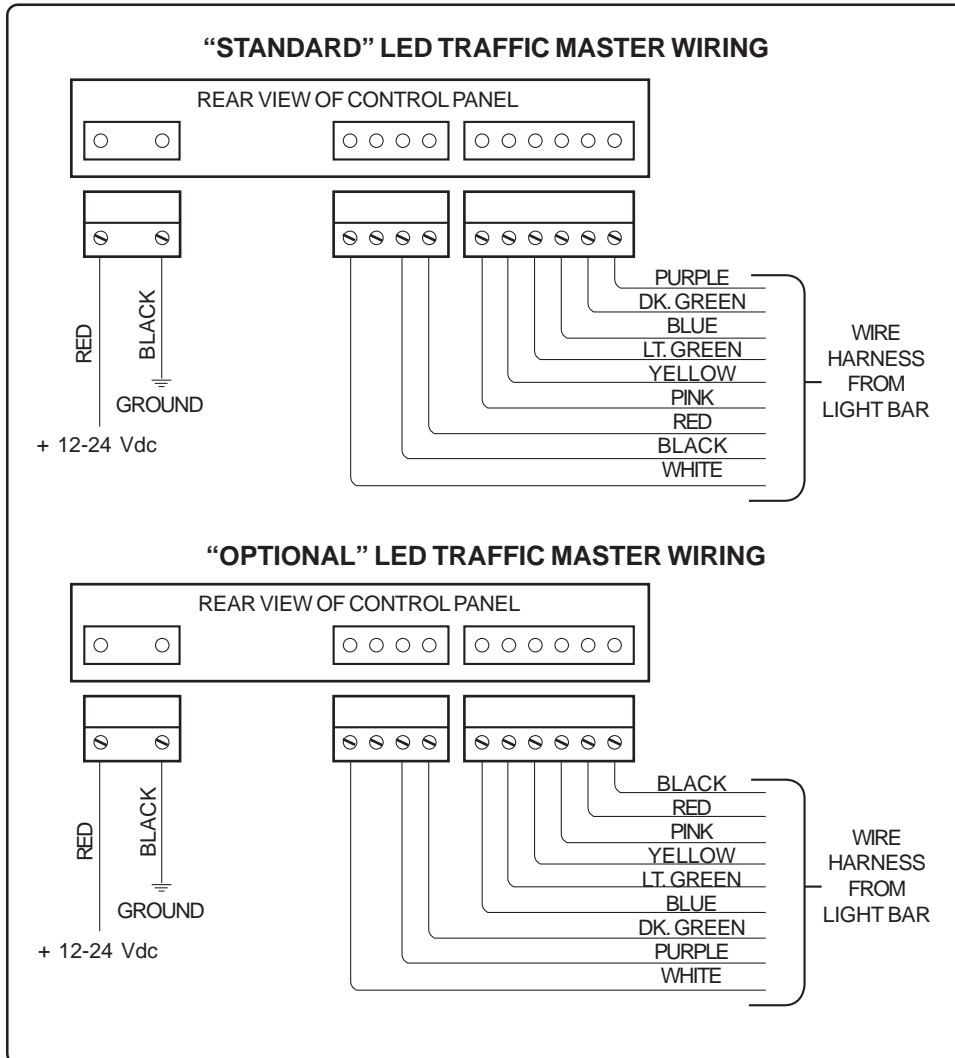

Figure 5. Standard and Optional Wiring Schematics
The LED Traffic Master should be mounted using the adjustable "L" brackets which are provided. Refer to page 5 for specific mounting instructions. In addition, note Figure 2, relating to mounting configurations and STANDARD or OPTIONAL wiring specification. See page 7, Figure 5 for specific wiring.
- Attach the power and ground wire to the appropriate pins in the 2 pin socket housing as shown in Figure 5.
- Attach the wires from the 9 wire harness into the appropriate 6 & 4 pin connectors as shown in Figure 5. BE SURE TO PLACE THE PINS IN THE PROPER SEQUENCE!!!